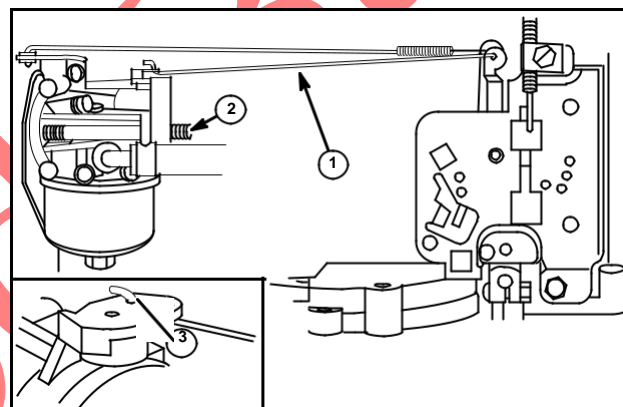

Fig. 120
1. Insert "Z" bend of link (1) in inner hole of choke lever from bottom of lever (3), Fig. 120.
3. Torque studs to 65 in. lbs. (7 Nm), Fig. 120.